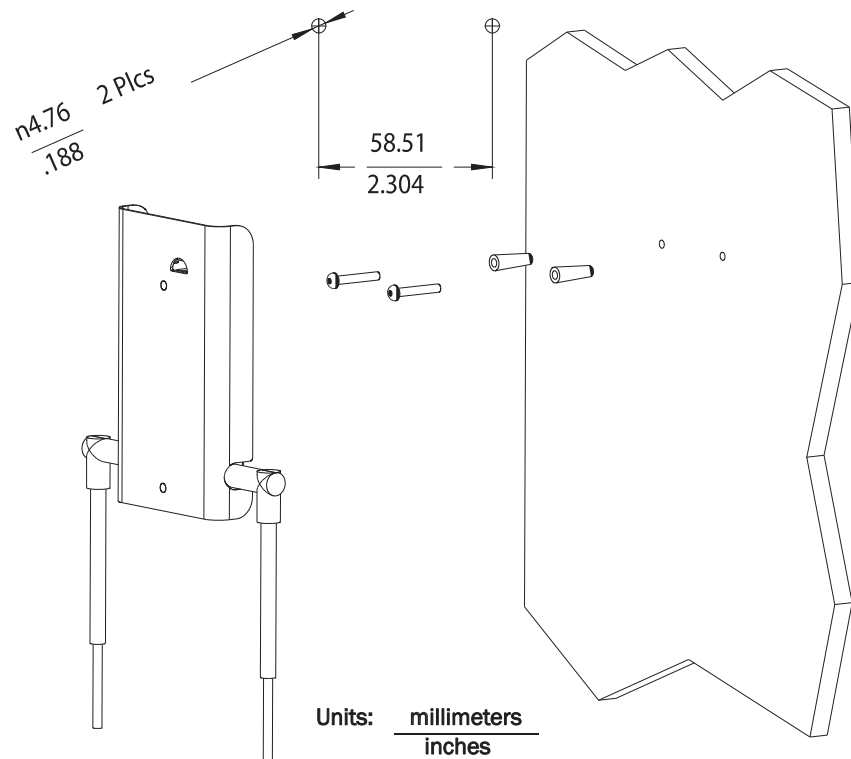

Figure 2-14: Mounting the ITS 1.4 GHz Remote Antenna to a Wall
1. Using a 3/16-inch drill bit, drill two pilot holes .188 inches (5 mm) in diameter at the locations shown in Figure 2-14.
3. Screw a supplied #6 x 1 1/4 inch self-tapping screw into each screw anchor (or pilot hole) as shown in Figure 2-14.
4. While holding the RA chassis with its antennas pointing down as shown in Figure 2-14, fit the holes in the back of the RA chassis over the screw heads that protrude from the wall. Slide the RA chassis down so that the screw heads are securely in the grooves in the back of the RA chassis.